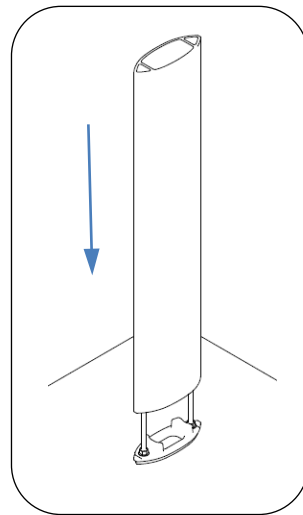

Fig. 5 – install extrusion
1. Install extrusion over threaded rods, see Fig. 5.